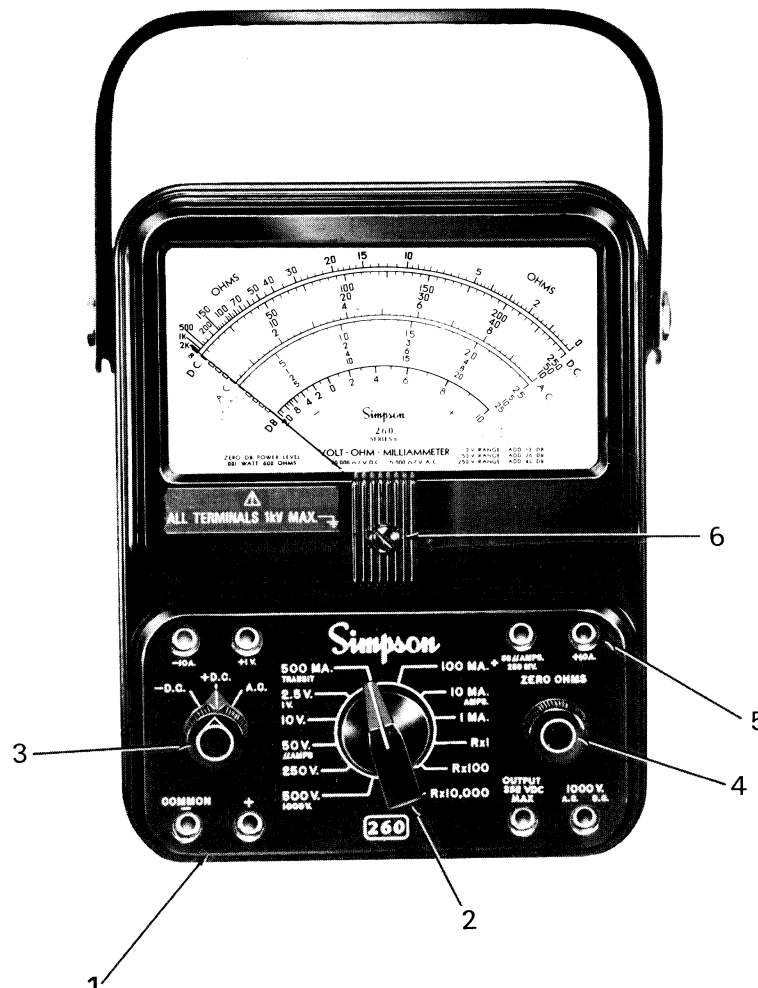

Figure 3-1. Front Panel Controls, Jacks and Indicators
NOTE: The item call-out in Figure 3-1 corresponds with the numerical order of the items listed in Table 3-1.
5. **Circuit Jacks:** There are eight jacks on the front panel marked with the functions they represent (Figure 3-1). These jacks provide the electrical connections to the test leads. The COMMON (—) jack is used (in conjunction with the black test lead) as the reference point for the measurement of all the functions with the exception of the 10A range. (Refer to the Operation Section for details.)